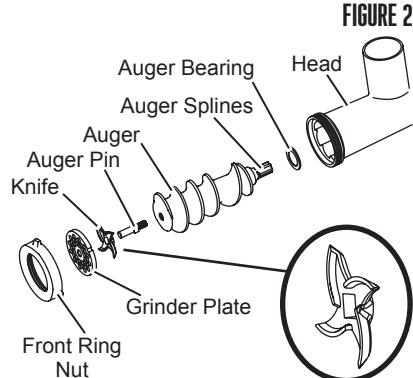

FIGURE 2
3. Insert the Auger, with the Auger Bearing attached, into the Head (**FIGURE 2**). Align the Auger Splines with the Drive Shaft of the Grinder. **NOTE:** Periodically inspect the Auger Bearing for wear. If the Auger Bearing has excessive wear, replace it to prevent head damage.
4. Place the Knife onto the square part of the Auger Pin (**FIGURE 2**). Be sure the blades of the Knife are facing outward.